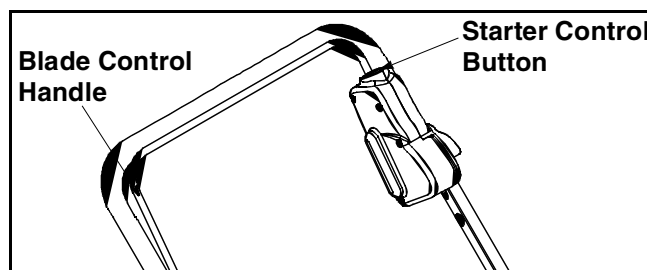

Figure 10
7. Turn safety key 1/4 turn clockwise to RUN position.
10. Using your left hand, pull the control handle all the way toward the upper handle. See Figure 10.
3. Turn safety key 1/4 turn clockwise to RUN position.
6. Using your left hand, pull the blade control handle all the way toward the upper handle. See Figure 10. Starter will de-energize and engine will start.